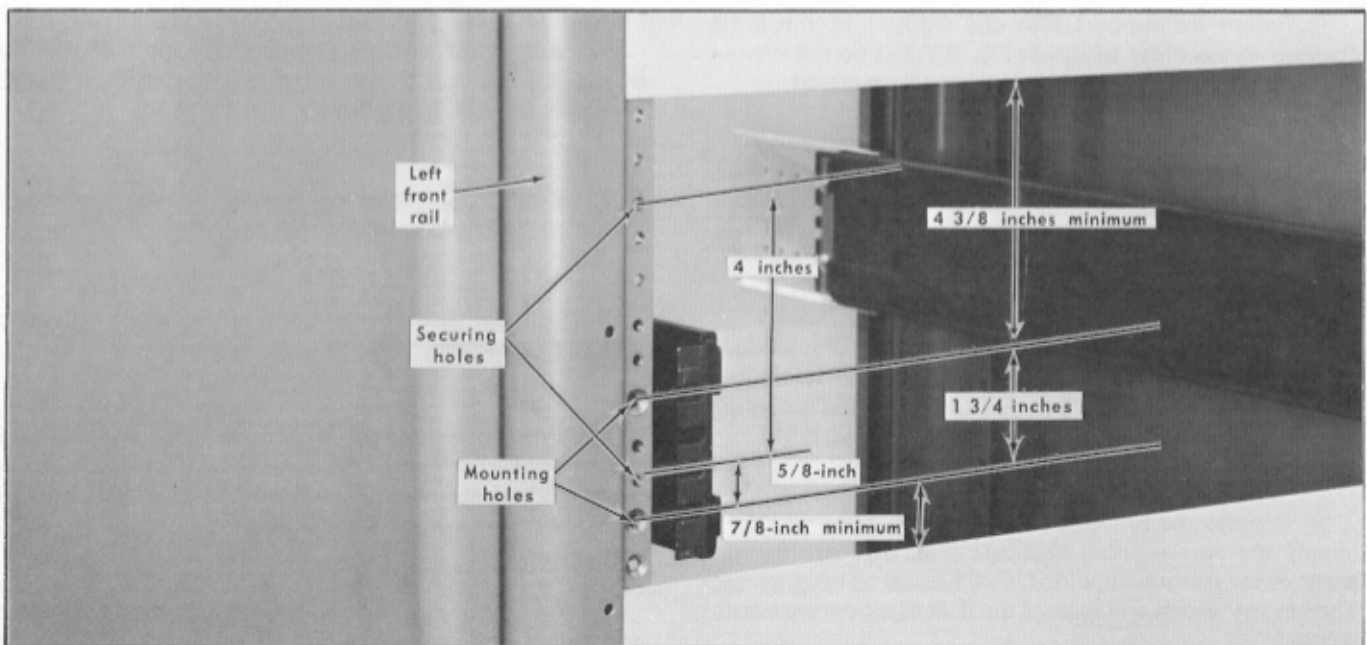

Fig. 8-5. Vertical mounting position for front end of slide-out tracks. Left stationary section (only) is shown.
1 Universal hole spacing is: 5/8", 5/8", 1/2", 5/8", 5/8", 1/2", . . . . Racks with other hole spacing may need to have additional holes drilled and tapped in the support rails at the locations indicated in Figs. 8-5 and 8-9.
1. Referring to Fig. 8-5, select the proper front-rail mounting holes for the stationary sections.